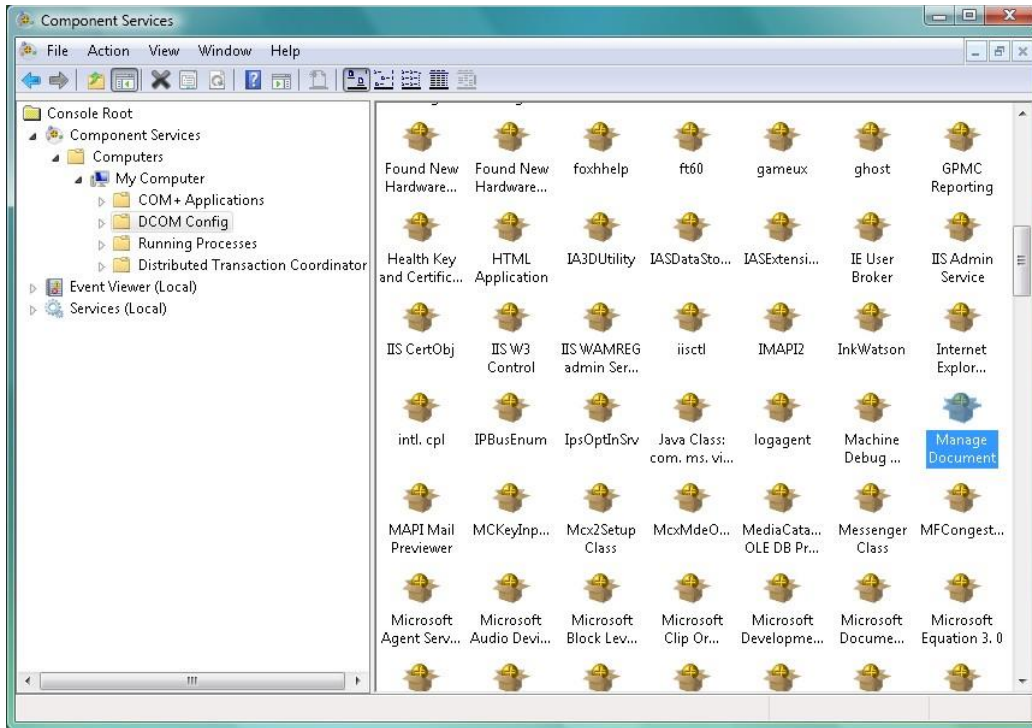

Figure 24: Component Services Window
2. For Windows 7, type `dcomcnfg` in the Open field and click **OK**. For Windows 8.1/10, enter `dcomcnfg` in the Start/Search menu. The Component Services window is displayed as shown in Figure 24.